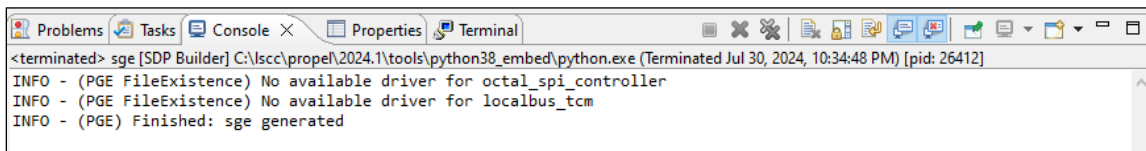

Figure 6.6. Build SoC Project Result
2. Check the build result from the **Console** view as shown in Figure 6.6.